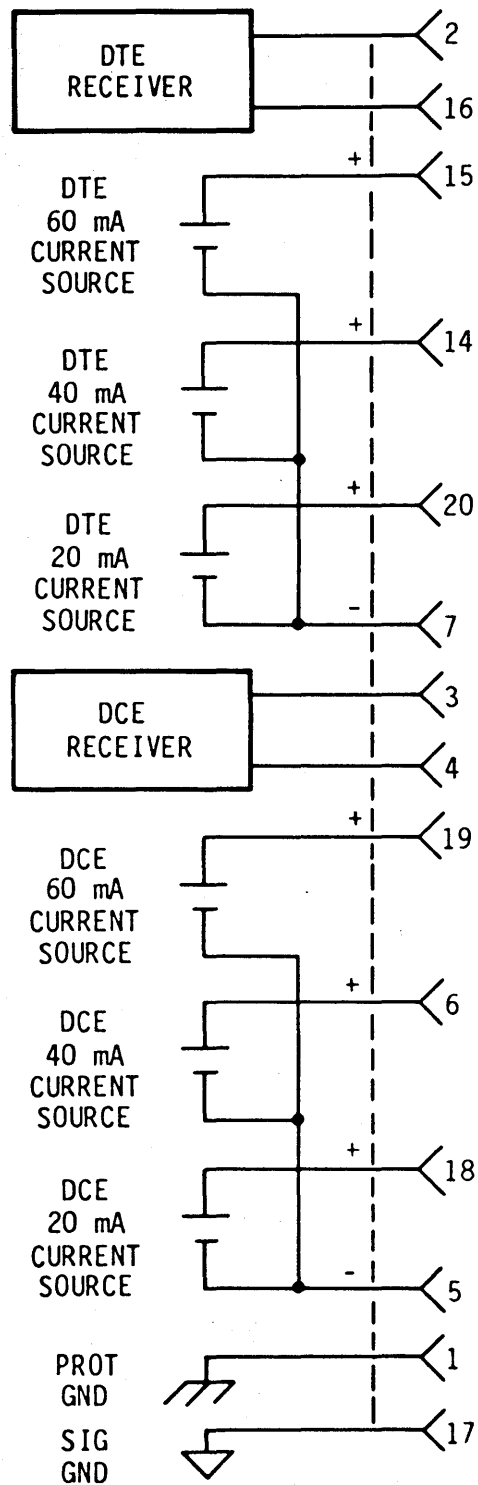

Figure 2. Current Loop Pin Assignments
4.03 The current loop circuits consist of a receiver and 60, 40, and 20 mA current sources for both the DTE and DCE inputs. The connections to the CURRENT LOOPS connector on the rear panel are shown in figure 2.